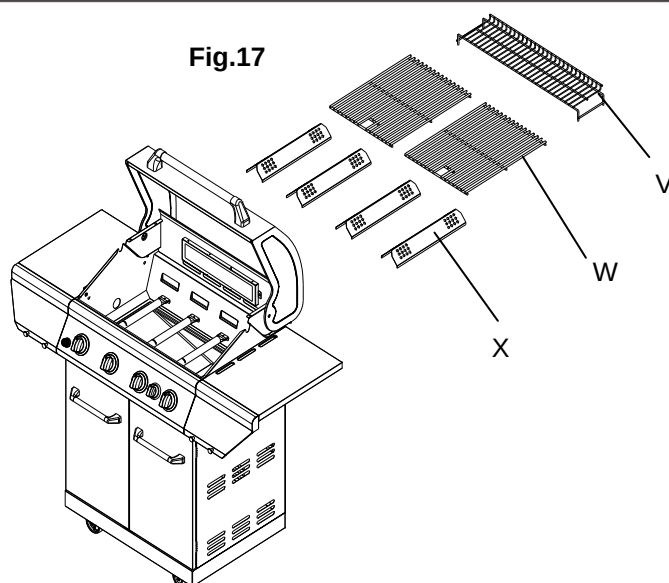

Fig.18
Place the liquid propane tank into the hole in the bottom panel and tighten the tank bolt (M) at the back of the grill to secure as shown in Fig. 18